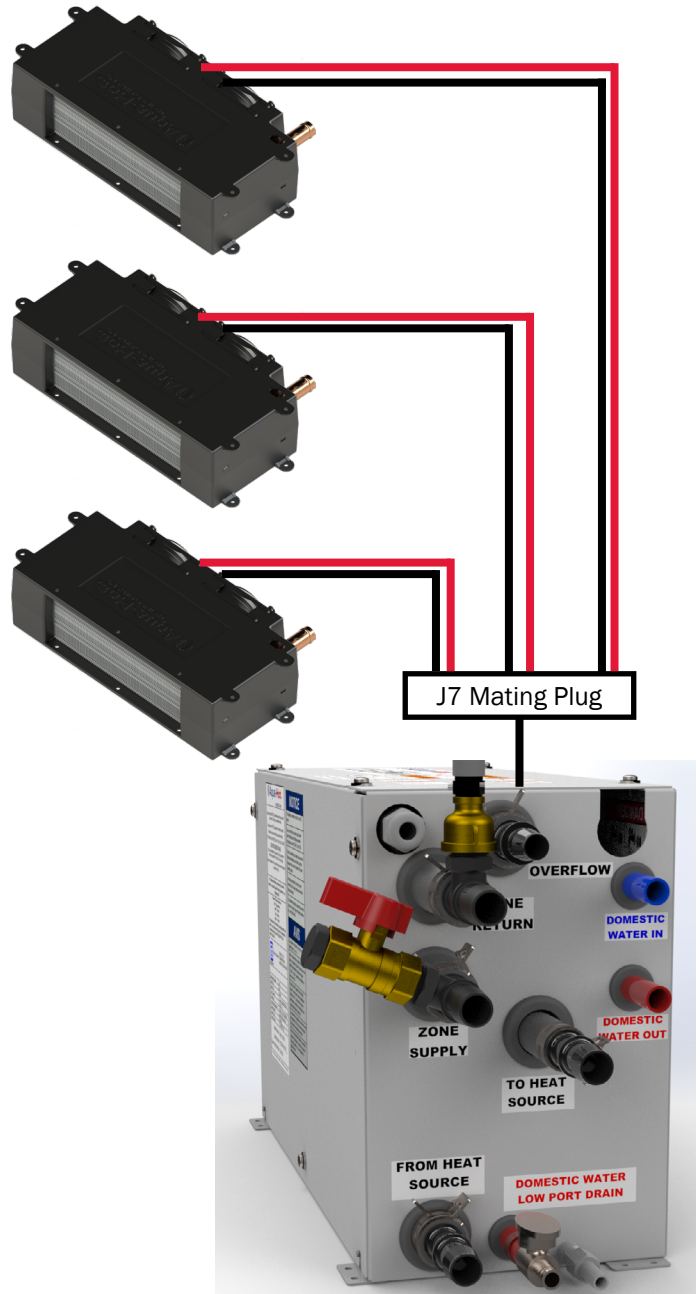

Figure 67
1. Wire each heat exchanger (in a thermostatic zone) in parallel to one another as shown in Figure 67.